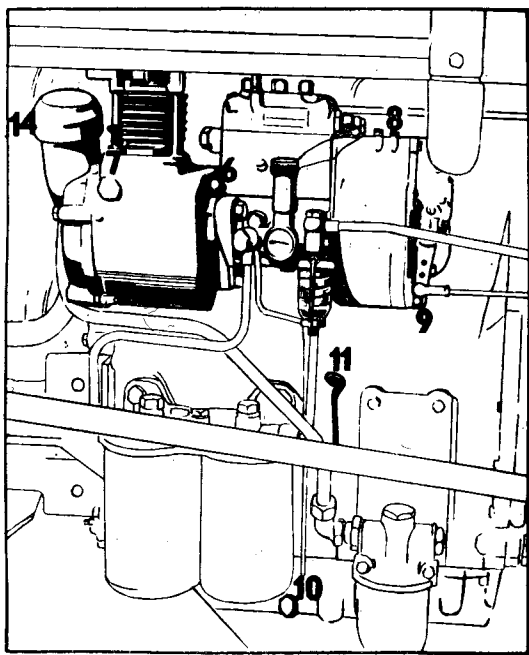
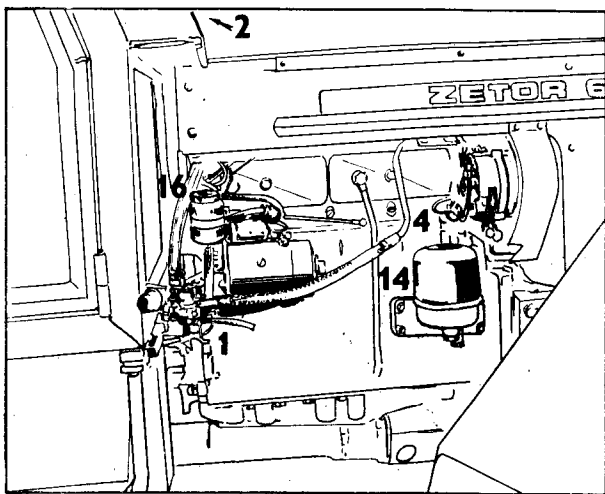

Fig. 7
Fig. 8
6. Compressor control lever (Fig. 7/6). If the compressor is to be put into operation its engagement should be carried out at minimum engine revolutions at the simultaneous tock lifted upwards and the lever engaged in the sense toward the radiator (Fig. 7/6).
7. Lock (Fig. 7/7).
2. Fuel filling orifice (Fig. 8/2).
4. Water drain tap from the crankcase (Fig. 8/4).
6. Draining tap of the coolant from the heating equipment (Fig. 8/1).
8. Oil filling orifice of the injection pump and the governor (Fig. 7/8).
9. Oil filling orifice of the engine (Fig. 7/14 — on Z 4911 tractors, Fig. 8/14 — on Z 6911 and Z 6945 tractors with and without safety cab).
10. Oil draining hole of the injection pump and the governor (Fig. 7/9).
11. Oil drain bolt of the engine (Fig. 7/10).
12. Oil dipstick for checking the oil level in the engine sump (Fig. 7/11).
17. Brake liquid filling orifice (Fig. 8/16).